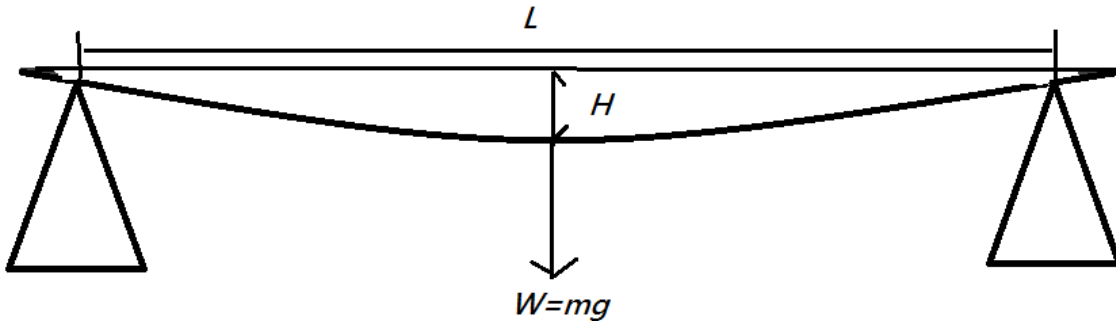

Figure -1. Bending beam method
1. When applying downward force to the center part of the metal beam, strain occurs in the beam and it bends downward. The bent height – H should be proportional to the adding weight. (As Figure -1)
9. Calculate the young's modulus and compare with figure-1 to get the tolerance.